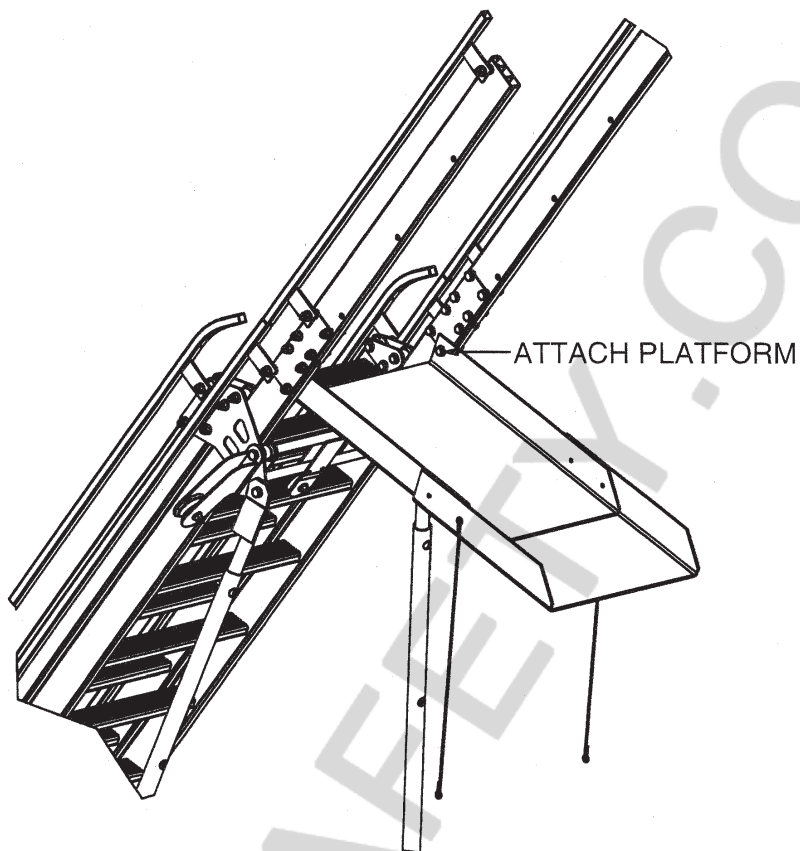

Figure 32
7. Attach platform as shown in Figure 32. Depending on the platform you ordered, it will be hung with either cables or bars. The illustrations below show the extendable platform (P/N 15126) hung with cables.